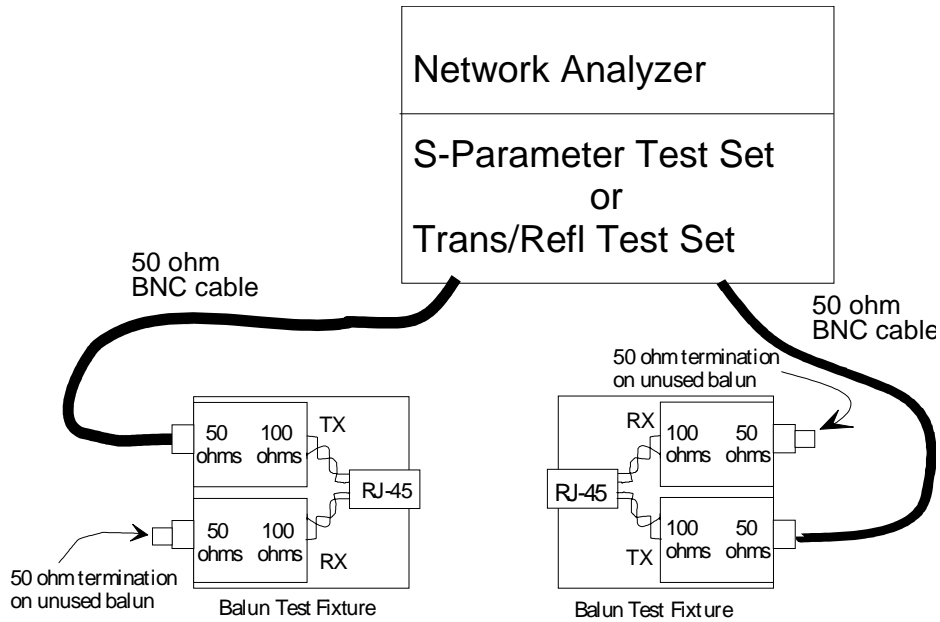

Figure E-1 Network Analyzer Setups for Calibration and Measurement of Insertion Loss
2. Connect the 50Ω side of the other balun to port two of the network analyzer through a second BNC cable. See Figure E-1.